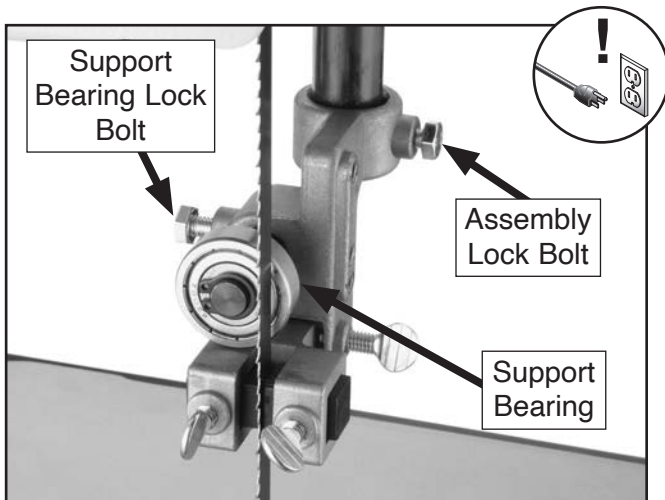

Figure 33. Support bearing controls.
3. Familiarize yourself with the support bearing controls shown in **Figure 33**.